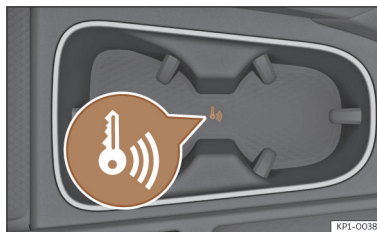

Fig. 116 On the centre console: emergency start.
- Immediately after pushing the start button, place the key in the drink holder of the centre console >>> **Fig. 116**, as close as possible to the Kessy logo.